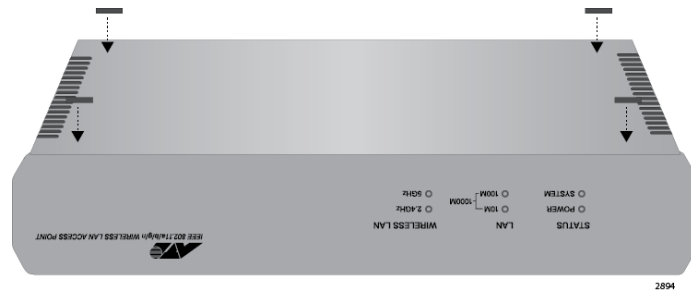

Figure 7. Installing the Rubber Feet
2. Affix the four rubber feet included with the access point to the four corners of the bottom panel of the unit. Refer to Figure 7.